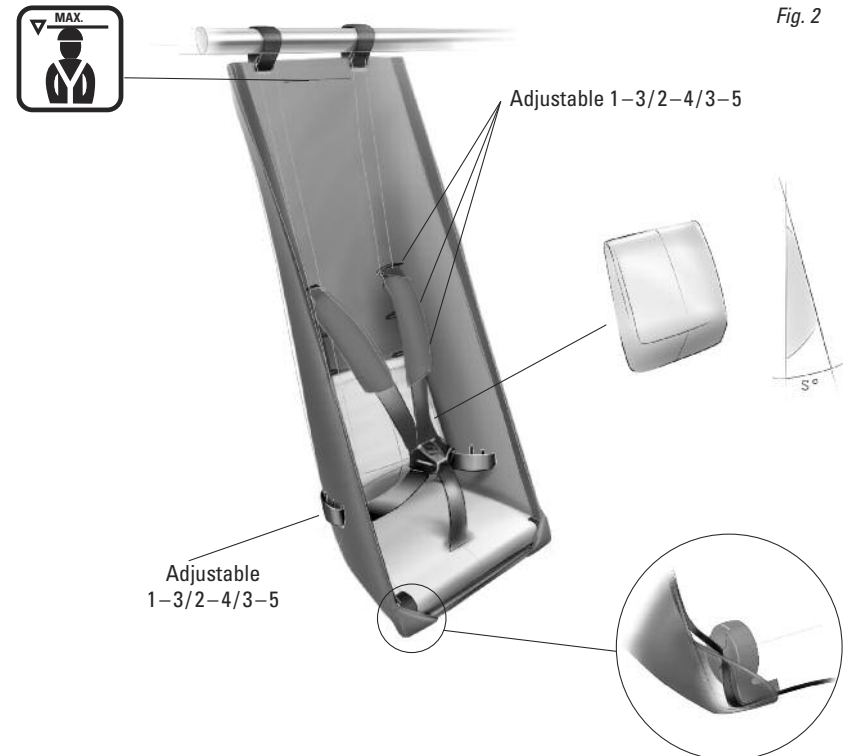

Fig. 2
- Children being pulled must have enough head clearance (Recommendation: minimum 5 cm) to ensure proper roll-over protection. The heads of the children must not project with the safety helmet beyond the marking in the trailer (Fig. 2).
Take care to ensure that the settings of the five-point belts are adjusted suitably corresponding to the age of the child (Fig. 2, page 43)